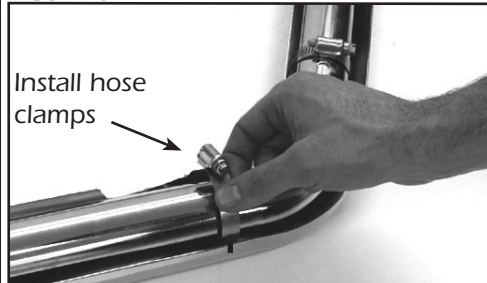

FIGURE 4
6. Lay head pipes into heat shields and loosely install hose clamps by feeding tail end of clamp into heat shield clips (Figure 3). Take note of screw head direction (Figure 4). Screw heads should be accessible when system is installed on motorcycle for adjustment purposes. Use #20 hose clamps on head pipes and #28 hose clamps on muffler bodies (supplied).